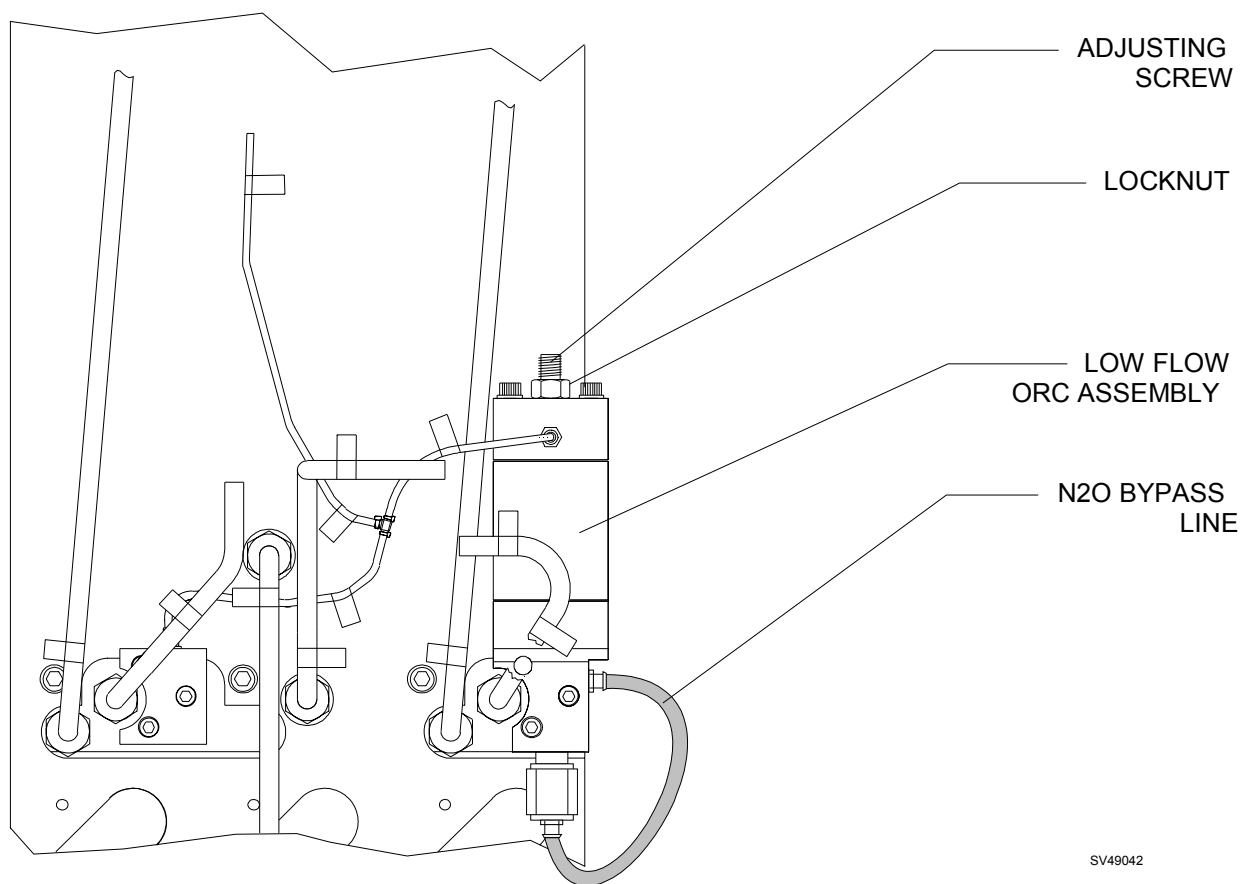

FIGURE 5-3. Oxygen Ratio Controller Adjustment
- 5.3.4 Pinch the N₂O bypass line on the ORC. See Figure 5-3.